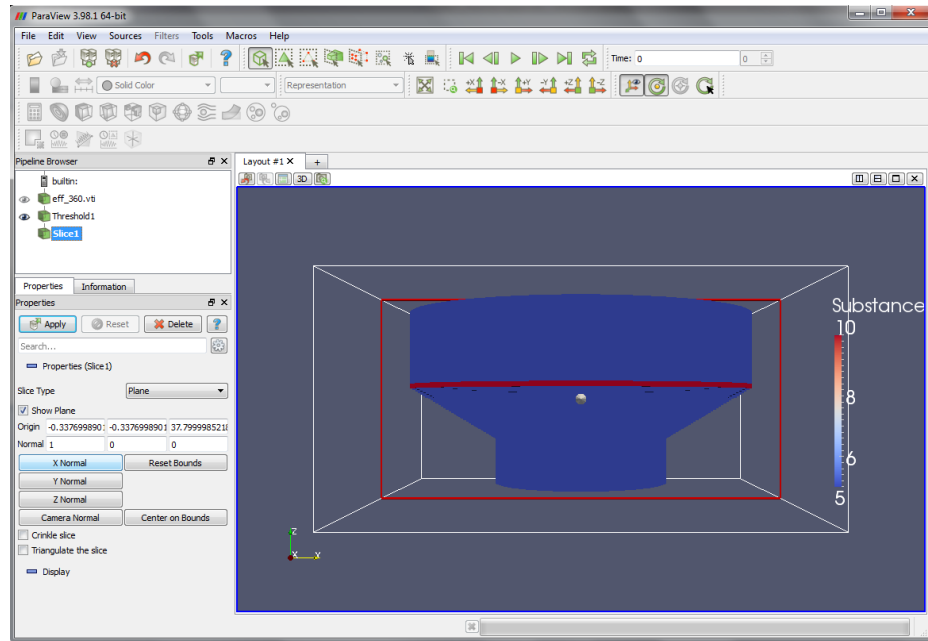

Figure 6.2-9: Preparing a central slice in the yz-plane.
- Select **X Normal** to create a slice in the yz-plane. The slice is placed in the center by default (see Figure 6.2-9).